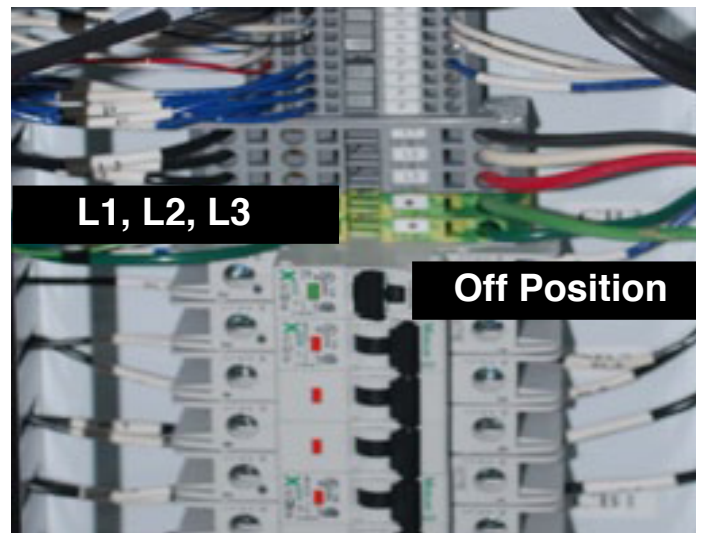

figure 2
1) Switch 24 volt circuit breakers to the off position - to the left position, the breakers will show green when it is in the "off" position. *figure 2*